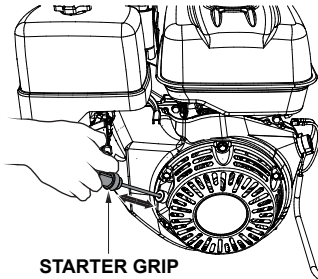

Figure 17. Starter Grip
3. Grasp the starter grip and slowly pull it out (Figure 17). The resistance becomes the hardest at a certain position, corresponding to the compression point. Pull the starter grip briskly and smoothly for starting.